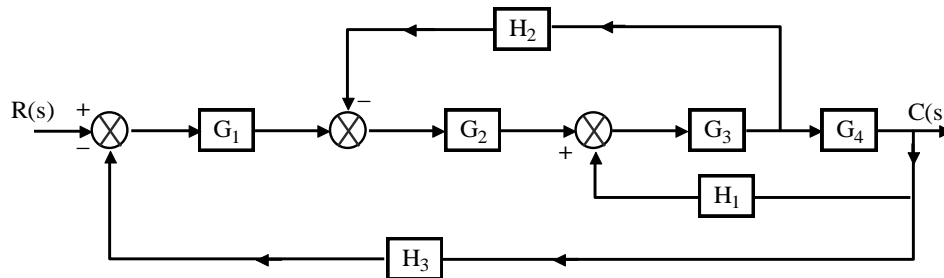

Fig. 3
3. For a system represented by block diagram as shown in fig. 3. Determine transfer function using.